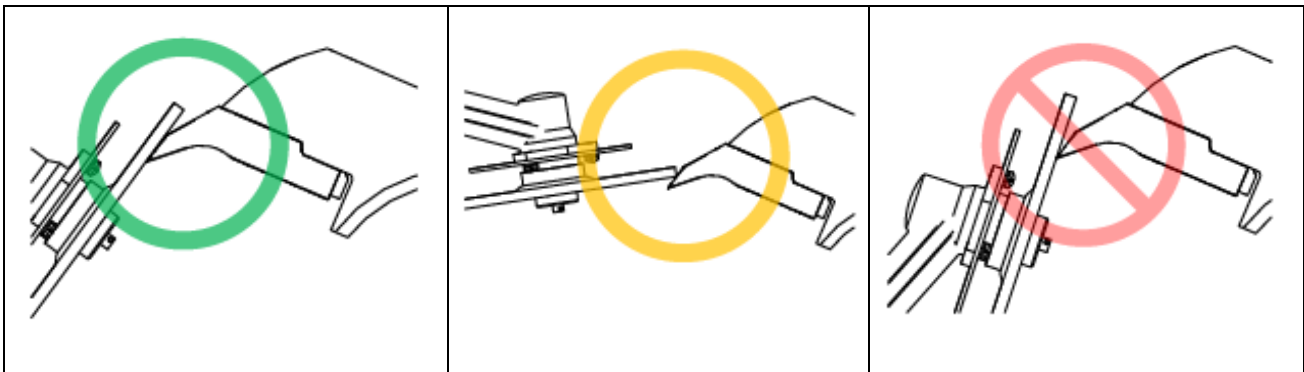

Figure 8
4. Never sharpen just the tip of the tooth. This could lead to the tooth heeling during mulching operations. See Figure 8.
5. Deburr the top of the tooth with the grinding wheel as necessary. Be careful not to remove too much material. Deburring the underside of the tooth is not recommended. See Figure 8.